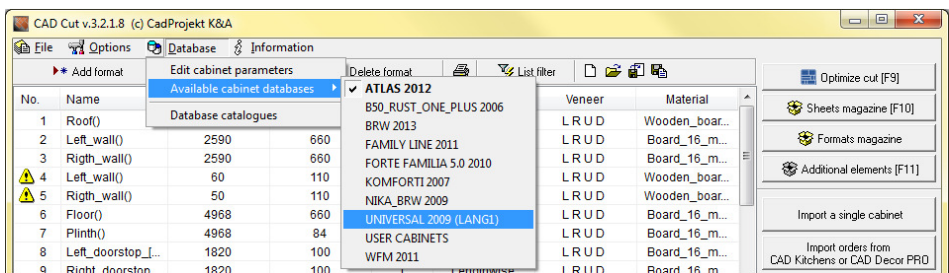

Fig. 102 – selecting a database used in the design created in CAD Kitchens
- select the database, on which the design was based, f. e. UNIVERSAL (Fig. 102);